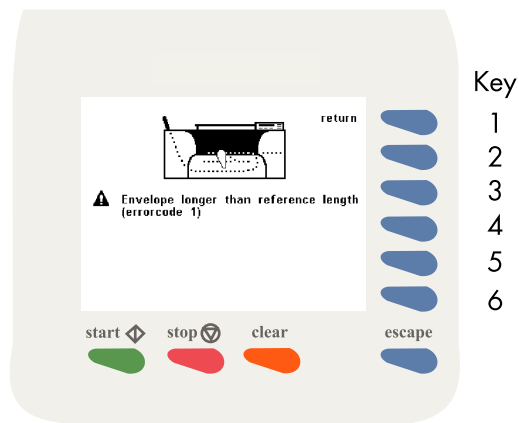

Fig. 29
By pressing key 1 in the error screen, an additional information screen as shown in Fig. 29 is displayed.